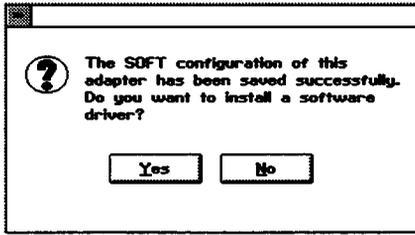

Figure 5-4. Saving a Configuration
2. To save the displayed configuration, select **Save**. The screen shown in Figure 5-4 then asks whether you want to install a network driver.
- ☛ If EZStart finds a conflict with a preassigned configuration, a message prompts you to move the selector to the **Soft** position. If you receive this message, select **OK** to display the message in Figure 5-4 and install network drivers, if desired. However, the nonconflicting configuration will not take effect until you save and exit from EZStart, turn off your PC, move the selector to the **Soft** position on the adapter, and turn on your PC again.